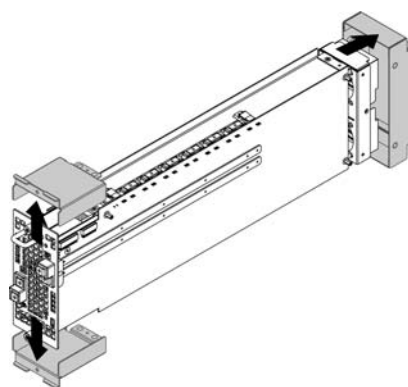

Figure 4-2
3. Remove the protection rackets as Figure 4-2 shows.